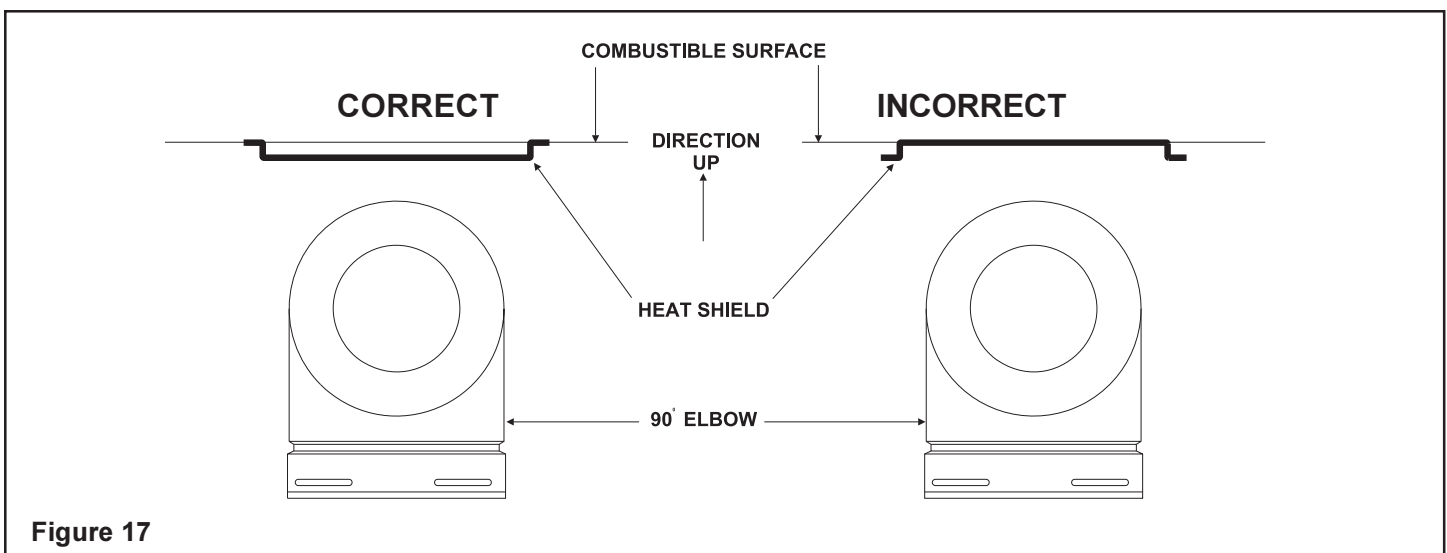

Figure 17
2. Fasten the shield in place using the four pilot holes provided in the part. The shield should be oriented such that the 13 1/8 inch dimension (longest dimension) is running in the same direction the elbow is pointing. The shield should be centered directly above the elbow, and positioned so that it creates a 1/2 inch airspace between the shield and the combustible surface. See Figure 17.
- 90° elbows may be installed and rotated to any point around the preceding component's vertical axis. If an elbow does not end up in a locked position with the preceding component, attach with a minimum of two (2) sheet metal screws.